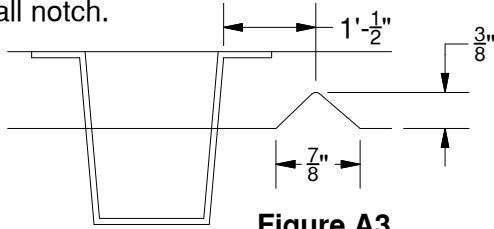

Figure A3
9. **Modify the bed flange.** Some models of trucks will allow the cross members to slide between the frame and bed without modification. If this is not possible, a small notch needs to be made in the flange on the driver side of the truck, see Figure A3. Locate the front truck bed cross member in the wheel well. Measure from the back of the cross member and make a mark at 1-1/2". This will be the center point for the notch that is needed. Mark and cut a 7/8" wide by 3/8" tall notch.
1. **Place rear cross member.** The mounting kit is supplied with two angle cross members. The rear cross member has three notches and will be installed first. Slide the rear cross member between the frame and bed on the driver's side. If necessary use the notch cut into the bed flange, shown in Figure A3. Make certain the leg of the angle with the oval holes is facing toward the cab. After sliding the angle in about half way it may need to be guided onto the other frame from the underside the truck. At this point the angle should span between both frame rails and in front of the shock bracket on the passenger side. Next using the notch over the shock bracket for clearance, roll the angle iron over the bracket while sliding it toward the rear. It is important to hold the driver's side of the cross member upward against the bed floor and forward against the bed cross member. Continue to slide it back until it is about four inches behind the four inch hole that has been drilled in the bed.